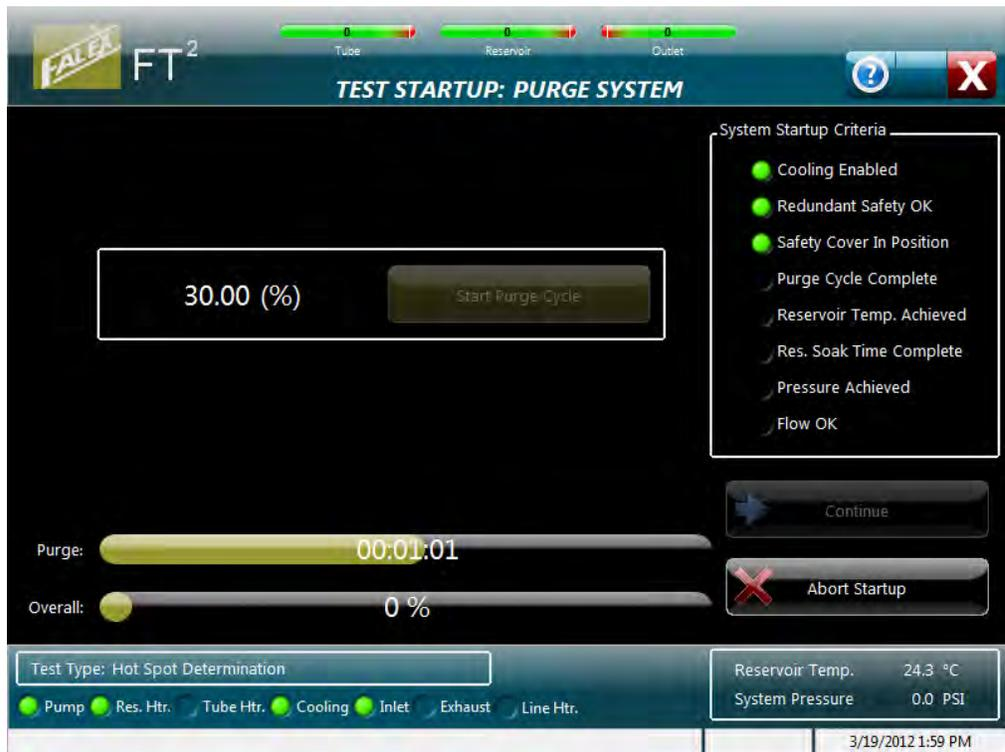

Figure 4-56 – Purge System display
One of the first three (3) displays in the startup process (depending on configuration) is the Purge System display (figure 4-56). The purpose of this process is to pump test fluid through the system to displace any air being held within the tubing lines and to achieve a constant stream of drops visible in the sight glass window.